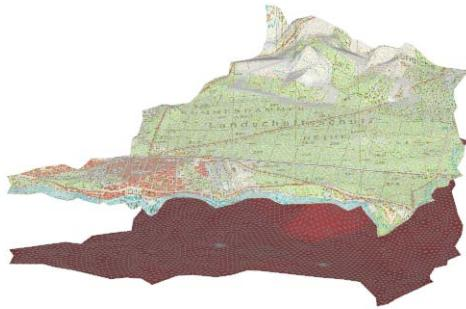

Figure 10.3 Plotting on selected geometries in 3D.
**phy\_rectified** in the **Maps** panel. The map is now visible on slice 1 in the **3D** view. The resulting plot in the **3D** view is shown in figure 10.3.